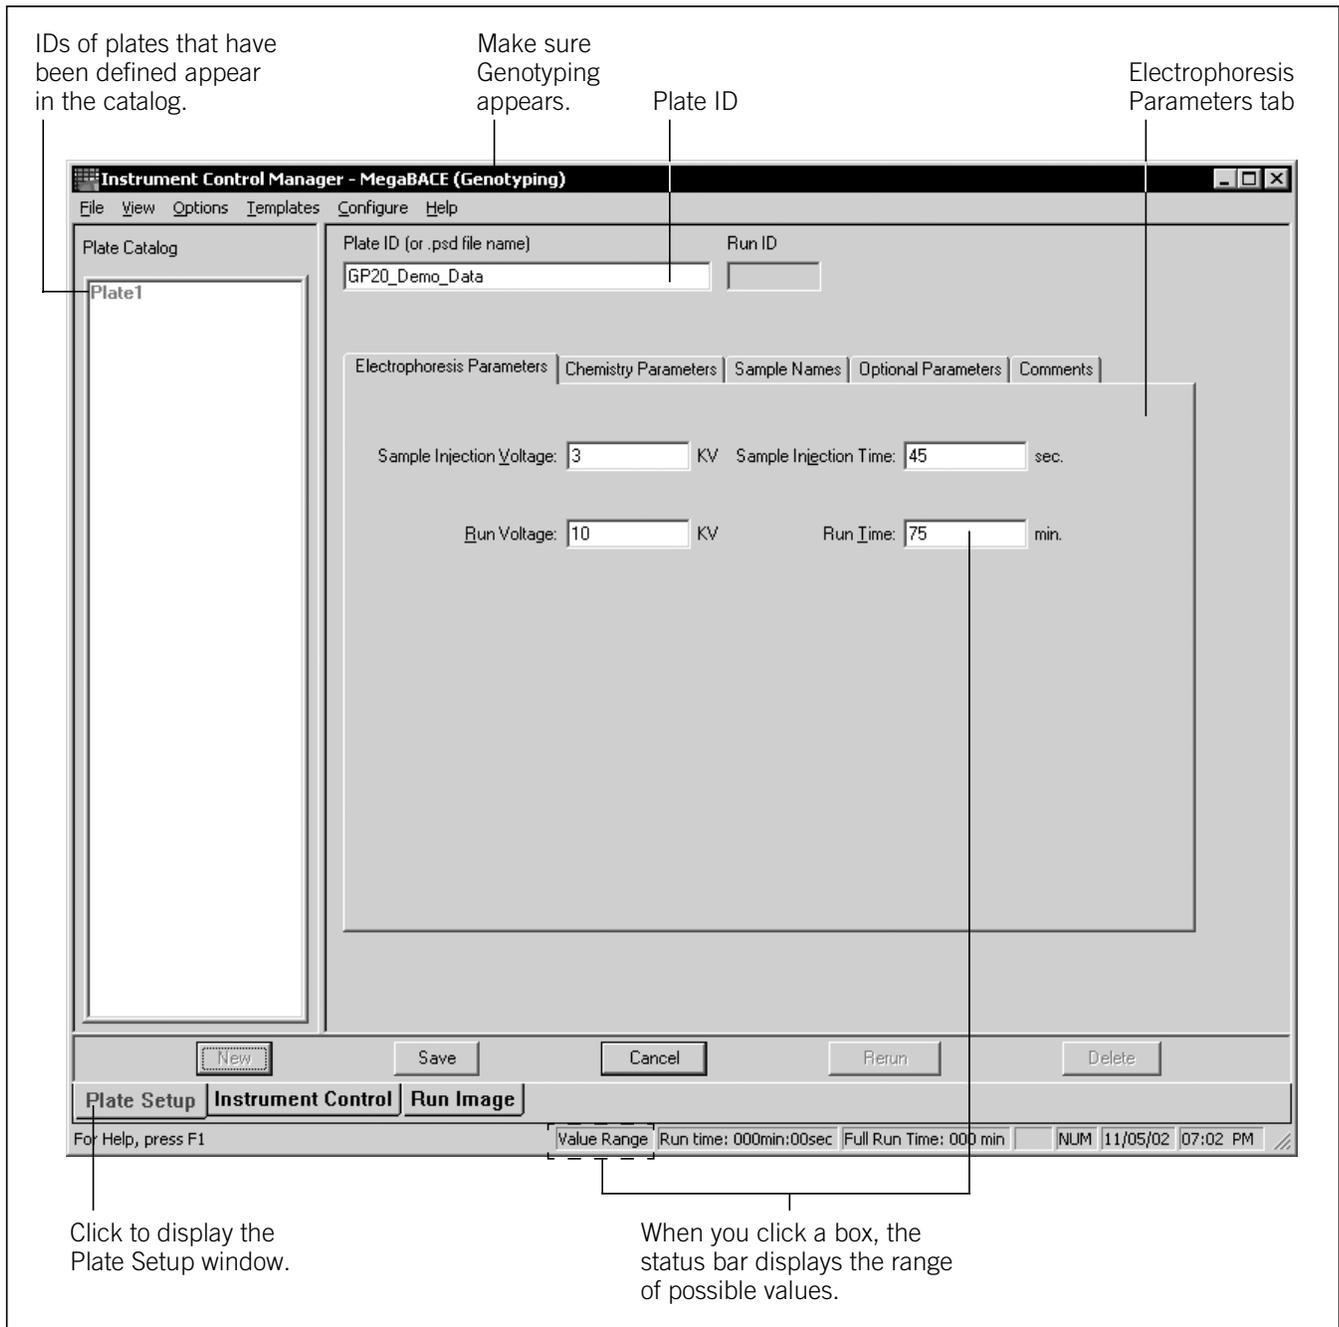

Figure 10-1. The Plate Setup window for STR genotyping.
2. Click the **Plate Setup** tab at the bottom of the Instrument Control Manager window. The title bar of the Plate Setup window (figure 10-1) displays the name of the selected application.
- Electrophoresis Parameters tab (figure 10-1)
Electrophoresis Parameters (figure 10-1)	<p>The electrophoresis parameters are—</p> <ul style="list-style-type: none"> • Sample injection voltage and time • Run voltage and time <p>All the boxes in the tab must contain values. To display the range of values for a given parameter, click the corresponding box. The range appears in the status bar at the bottom of the window.</p>